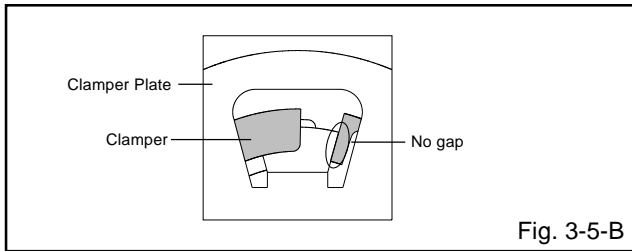

Fig. 3-5-B
## 3-5: CLAMPER ASS'Y (Refer to Fig. 3-5-A)
1. In case of the Clamper Ass'y installation, install correctly as Fig. 3-5-B.